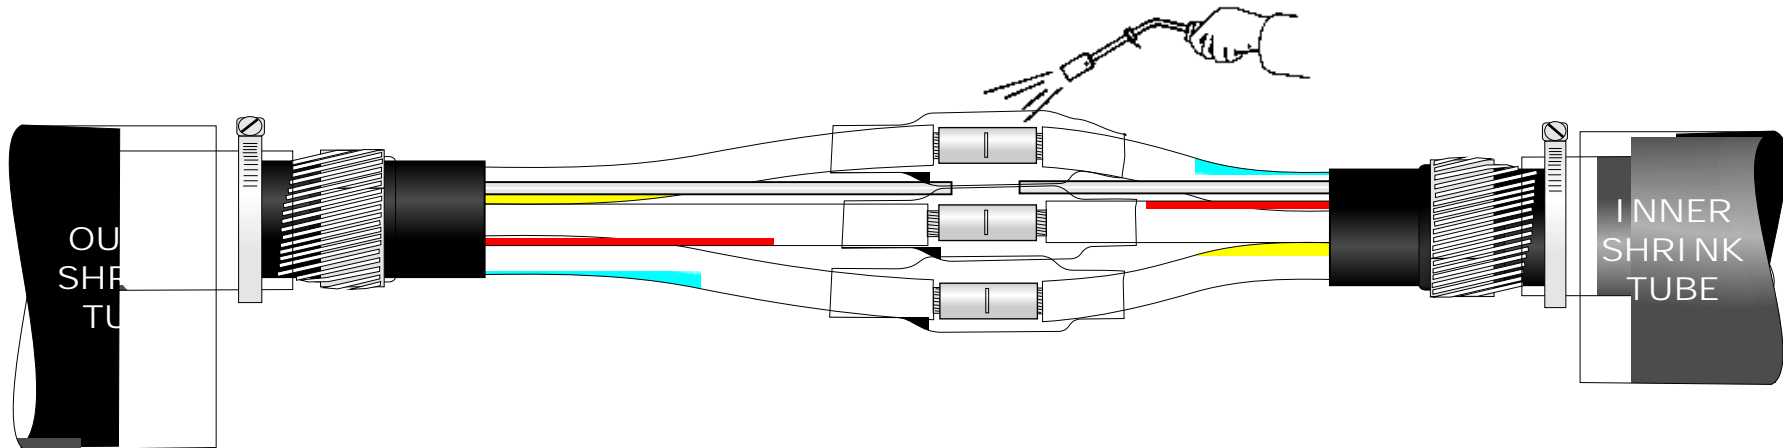

Fig 4
5. Centralise the individual connector insulation tubes over the connectors. Using a suitable heat source starting from the centre and working to one end at a time shrink in place, keeping the flame moving to ensure an even recovery (Fig 4).